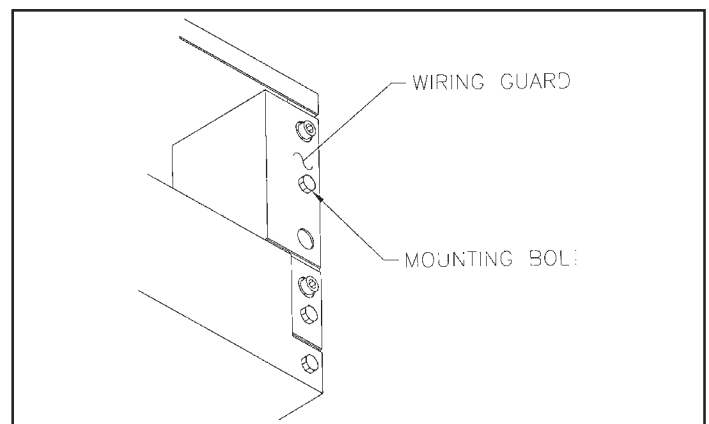

FIGURE 12 - Wiring Guard
- F. A wiring guard, **See Figure 12**, is mounted on the right of the air intake of the unit. The wiring guard is reversible, so it may be mounted on either side of the unit. Remove the 1/4" mounting bolt. Clearance holes enable the wiring guard to be removed without disturbing the 1/4" shoulder bolts.
- K. Reinstall the wiring guard so that it covers all of the wires used to make the connections to the terminal strip. Reinstall the 1/4" mounting bolt. **See Figure 12.**